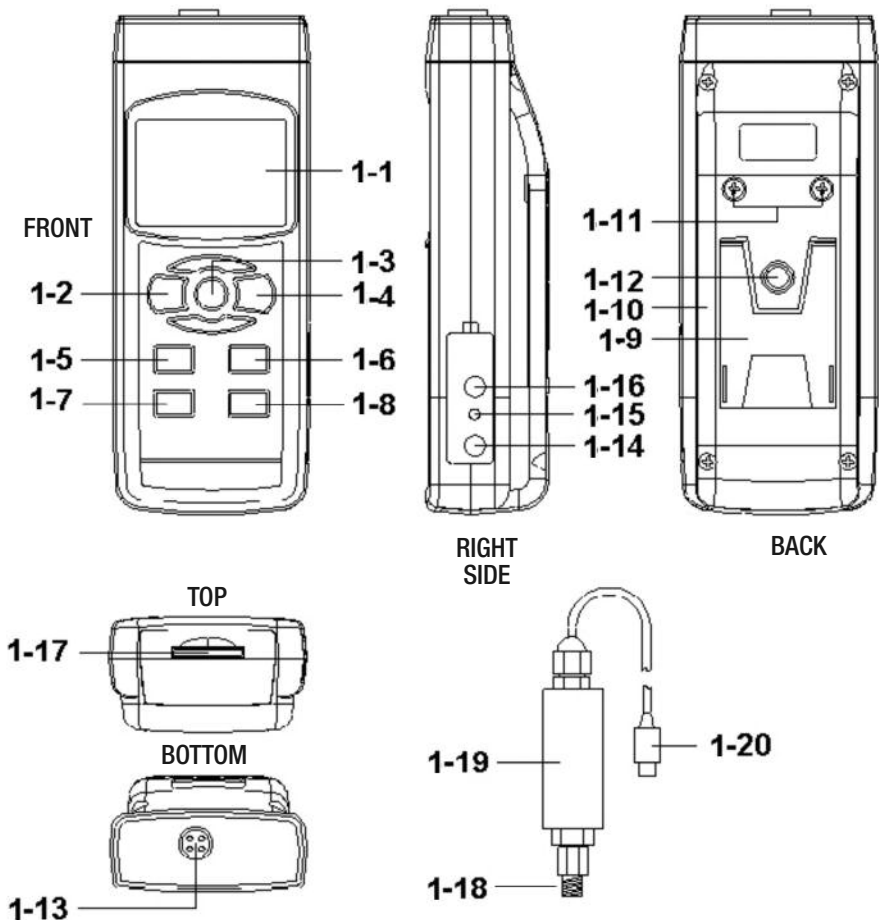

Fig. 1. The PM930SD's controls and indicators and other physical features
Figure 1 shows all of the controls and indicators on the front, back, top, bottom and right side of the PM930SD. It also shows the main components of an optional pressure sensor. Familiarize yourself with the positions and functions of these controls, indicators and ports before moving on to the setup procedure.
- Plug the connector (callout 1-20 of Fig. 1) of an optional pressure sensor (callout 1-19) into the socket on the top of the meter (callout 1-13).